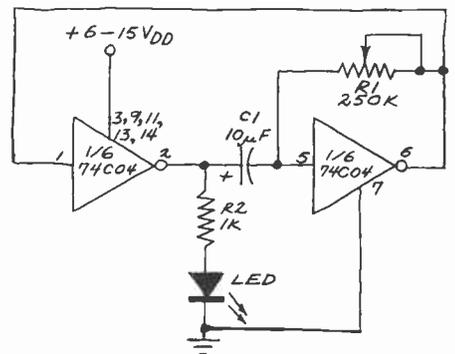

Fig. 2. Astable multivibrator.
**CMOS Astable Multivibrator.** A good way to become better acquainted with CMOS is to build a simple astable multivibrator from a few of the inverters in a 74C04 hex inverter. One possible circuit is shown in Fig. 2. This circuit will flash its LED at ample brightness while consuming only a few milliamperes from the four series-connected 1.5-volt alkaline AA cells. Excepting current through the LED, the circuit consumes less than half a milliampere.